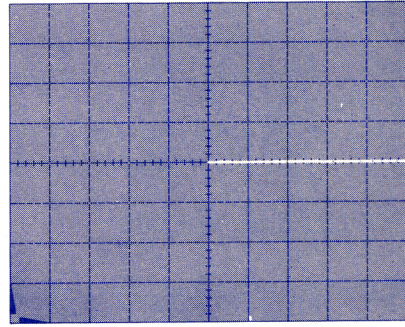

Figure 2-1. Display shows 50 V across device and no current through it. SCR is within specification. Figure 2-2 is example of SCR out of specifications.
- 3) Compare to specifications — Check to see that, at specified voltage, stated current is not exceeded. [4 divs vertical, or 2.0 mA]. See Figure 2-1.